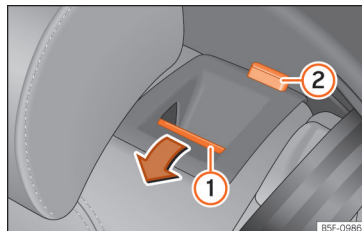

Fig. 113 Rear seat: folding the backrest.
- Press the unlock button »» Fig. 113 ① forwards and at the same time fold the backrest